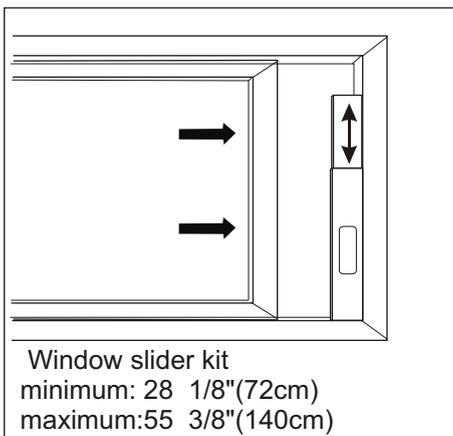

FIGURE 1
Your window kit has been designed to fit most standard vertical and horizontal window applications. However, it may be necessary for you to improvise/modify some aspects of the installation procedures for certain types of windows. Please refer to Figures 1 & 2 below for minimum and maximum window openings.
1. Loosing connecting lid on the back board, see FIGURE 1.